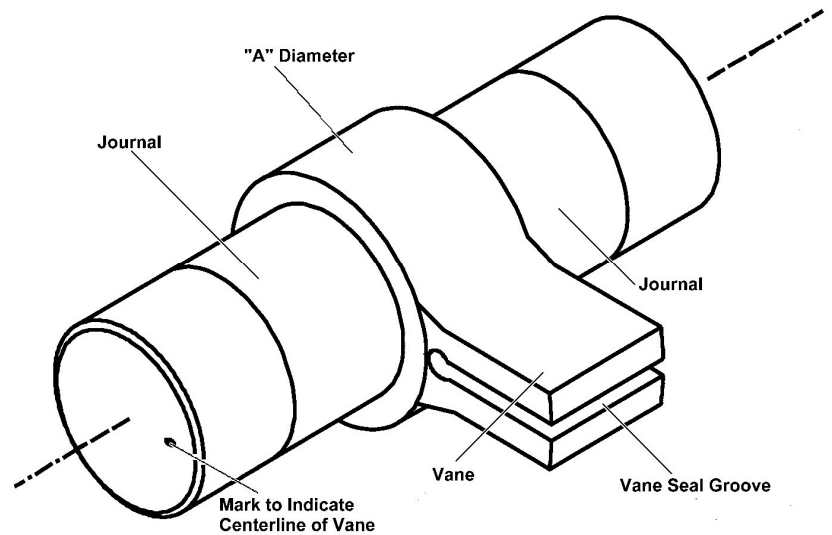

Figure 1 – Shaft Definitions
A. Shaft (Figure 1)
- c. Scoring on "A" (major) diameter. See Figure 1. Any scratch 0.010 inches or more deep indicates replacement.
- d. Scoring or galling on shaft journal. See Figure 1. This problem can be repaired with hard chrome, however, many critical dimensions must be held. This type of repair should be performed by the actuator manufacturer.
- e. Scoring or galling on end of "A" (major) diameter. See Figure 1. This is another problem that can be repaired; however, it is recommended that this type of repair be performed by the actuator manufacturer.
- A. Place body (2) on a flat surface. Put the head dowel pins (3) into the body for the dummy head. Attach the dummy head so that it is properly seated. Turn the body and dummy head over so that the dummy head is on the flat surface.
- B. Install the shoe cushion seal (11) and shoe cap seal (10) into the body (2). If they were removed previously, install cross-port plugs (17) into body per Table 1, Torque Specifications.
- C. Lubricate the shoe cap seal (10) and the ID of the body (2).
- D. Insert the vane cushion seal (15) and "C" shaped shaft vane cap seal (14) in vane of the shaft (1). Lubricate to hold the seals in position. Lubricate the "A" diameter of the shaft (see figure 1). Use care to avoid nicking or cutting the vane seals. All vane cap seal corners must remain sharp.
- E. Place the vane seal protector on the body and assure that it is properly seated. Place the shoe seal protector over the shaft extension and place this assembly into the dummy head. Rotate the shaft (1) approximately 90° from the shoe position. Slide the shaft (1) into the body (2) until the vane is fully installed. Remove the vane seal protector and the shoe seal protector.
- F. Install shaft cushion seal (12) and shaft cap seal (13) into the head (5). Smooth out ripples or wrinkles in the installed shaft cap seal (13). Install dirt excluder seal (6) into the head (5). Place wavy spring (7), hub ring seal (8), and hub cap seal (9) into the head (5). Insure that hub cap seal (9) is free to move axially.
- G. Place head O-ring seal (16) into the groove in the head (5).
- H. Lubricate all seals and internal parts with grease sufficient to maintain the seals in position when the head is inverted and installed on the body (2).
- I. Invert the head (5) and carefully slide it down over the shaft (1). Do not hammer on the head (5) or allow the hub cap seal (9) or head O-ring seal (16) to become dislodged from its cavity as the head (5) is mated to the body (2). Install two screws (4) 180° apart and tighten the screws (4) to pull the head (5) onto the body (2).
- J. Install the head dowel pins (3) into the head and the remainder of the screws (4) through the head (5) and into the body (2).
- L. Install shaft cushion seal (12) and shaft cap seal (13) into the second head (5). Smooth out ripples or wrinkles in the installed shaft cap seal (13). Install dirt excluder seal (6) into the head (5). Place wavy spring (7), hub ring seal (8), and hub cap seal (9) into the head (5). Insure that hub cap seal (9) is free to move axially.
- M. Place head O-ring seal (16) into the groove in the head (5).
- N. Lubricate all seals and internal parts with grease, sufficient to maintain the seals in position when the head (5) is inverted and installed on the body (2)